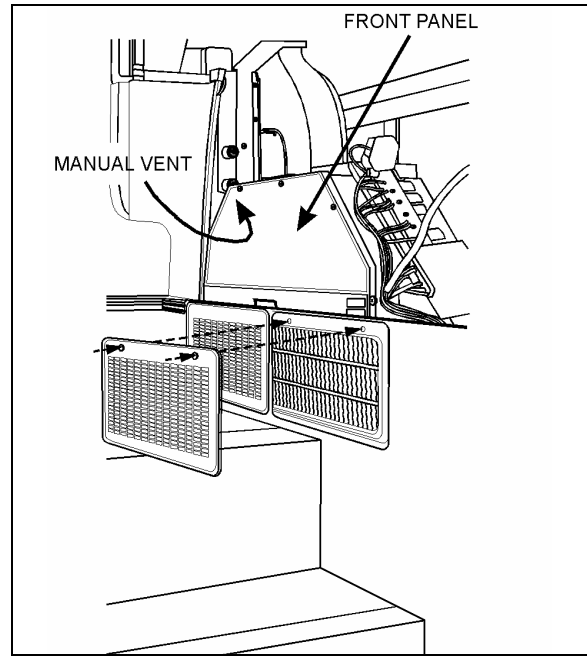

FIGURE 47: DRIVER'S HVAC UNIT 22172
4. From inside of vehicle, remove the two finishing panels in front of unit. Remove the three screws fixing the unit front panel. Open the manual vent located inside the HVAC unit, on the driver's side (Fig. 47) to ensure an efficient draining.
Whenever the heating system has been drained and refilled, or the system has run low on coolant and coolant has been added, it is necessary to bleed air from heating system. Locate the manual vents illustrated in Figures 47 and 51, and open them momentarily until no air escapes from the lines.